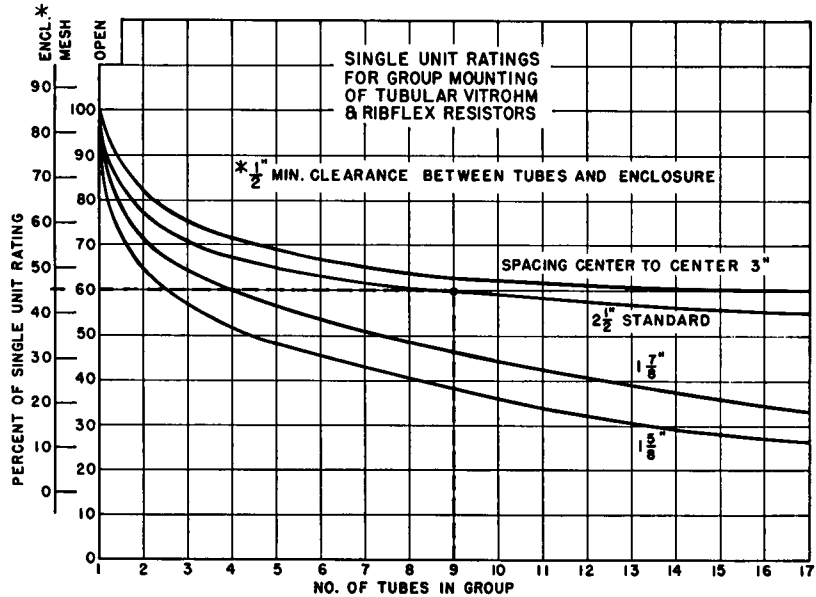

Figure 3-13. Single Unit Ratings for Group Mounting of Tubular Vitrohm and Ribflex Resistors.
b. **Group Mounting**—Figure 3-13 shows curves of percent of single unit rating against number of tubes in a group. Separate curves are given for four spacings, and in any group of three or more, the spacing between adjacent tubes is identical. Two percentage scales are shown; one for free air and the other for mesh enclosure. These curves apply to tubular Vitrohm and Ribflex resistors. Note that the rating varies with the spacing.
The approximate percentage derating for groups of Vitrohm resistors housed in metal mesh enclosures is shown in Figure 3-13. In the example given previously the total continuous duty rating of the group in free air is 864 watts. If this assembly of resistors is mounted in a metal mesh enclosure, the rating of the group must be reduced by 15 percent. The enclosed rating of the group